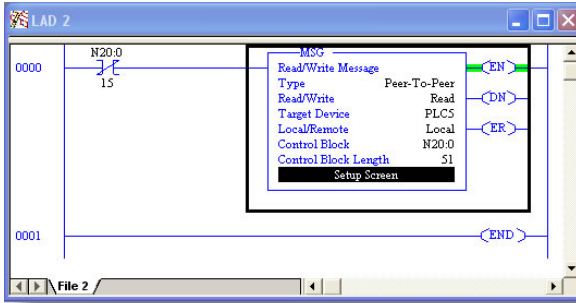

Figure 118: Completed PLC Program
7) The program is now complete. Refer to Figure 118.